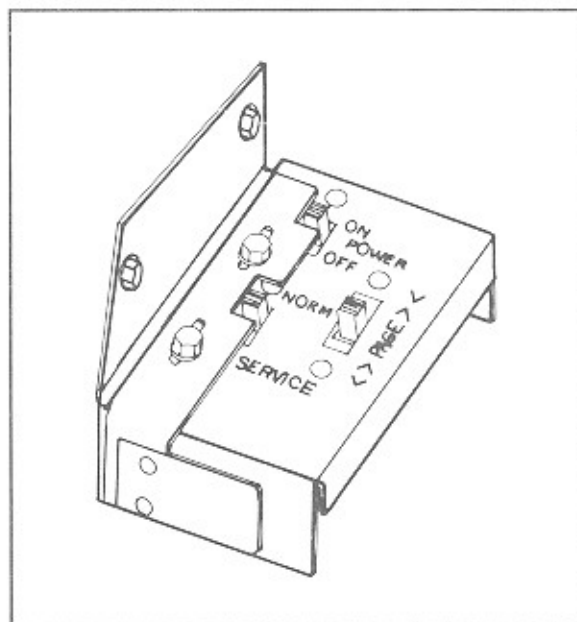

Figure 3-2. Service Switch
1. Open the top door and place the SERVICE switch (figure 3-2) in the SERVICE position. The phonograph display will say \* SERVICE MODE \*.